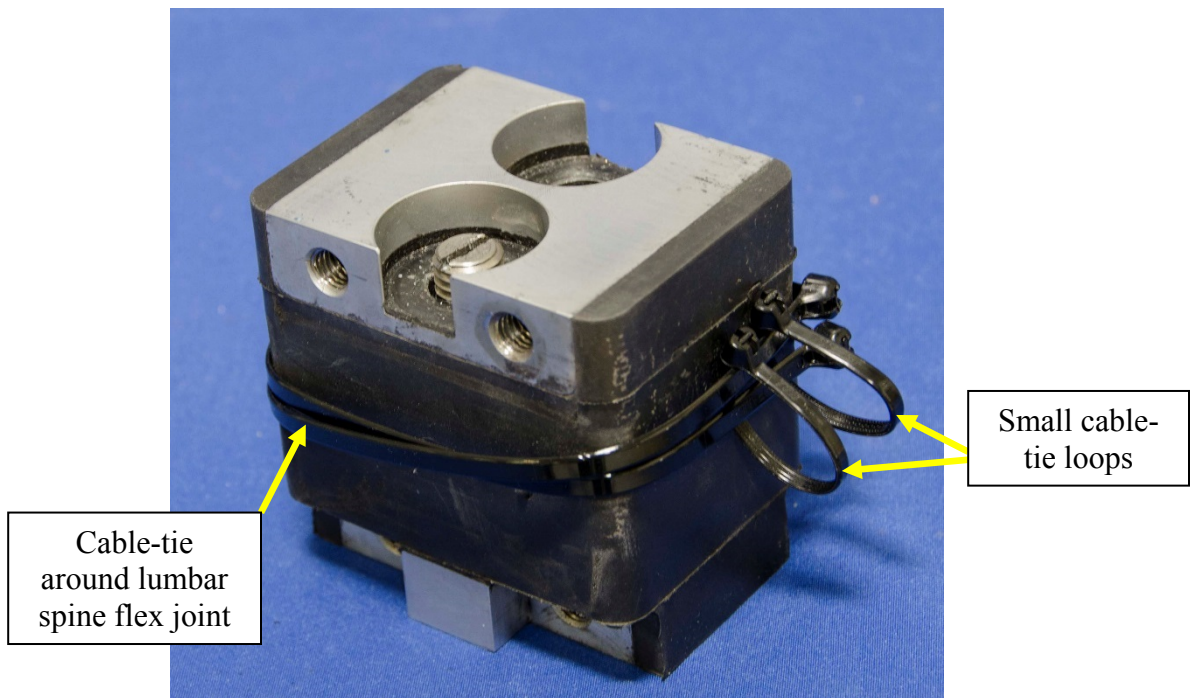

Figure 5-9. Install lumbar flex joint cable assembly into molded lumbar spine flex joint
- 5.2.2.1 Install a Lumbar Spine Flex Joint Cable Assembly (472-3745) into the Lumbar Spine Flex Joint Molded Assembly (472-3740) (Figure 5-9). At this point, it is useful to loosely install a large cable-tie around the lumbar spine flex joint and loop 2 small cable-ties through it as illustrated. These will be used for wire routing when instrumentation is installed (Section 15.4.3.3). Note the installation of the cables ties on the lumbar flex joint is much easier to complete in this step than on the fully assembled dummy.